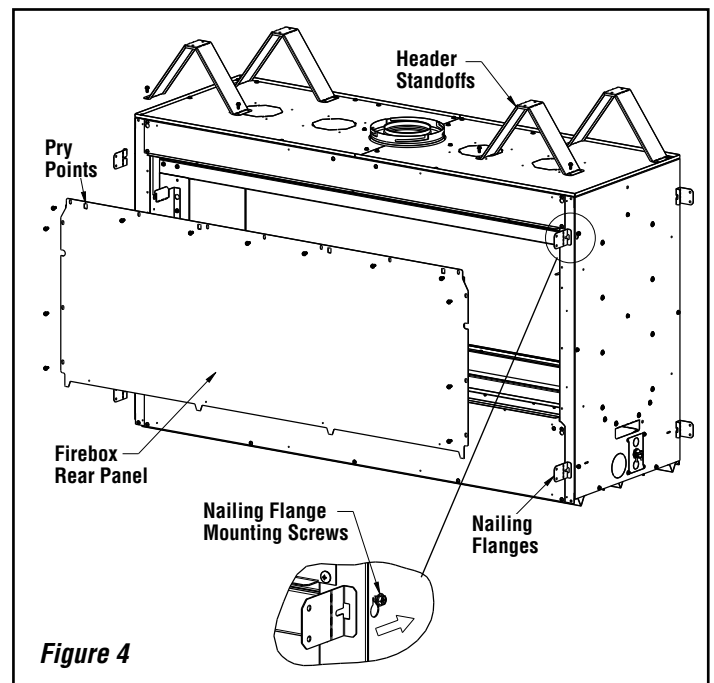

Figure 4
3. Remove the firebox rear panel mounting screws (see **Figure 4**). Lift upward to remove the firebox rear panel (a flathead screwdriver may be necessary to pry upward using the four (4) pry points on the top of the panel). Reinstall the six (6) screws that were holding the sides of the panel.
4. Install the header standoffs to the top of the fireplace using the supplied hex head screws (see **Figure 4**). Loosen (DO NOT REMOVE) the four (4) nailing flange mounting screws on the sides of the fireplace as shown. Slide nailing flange onto screw head and re-tighten. DO NOT fold over yet.